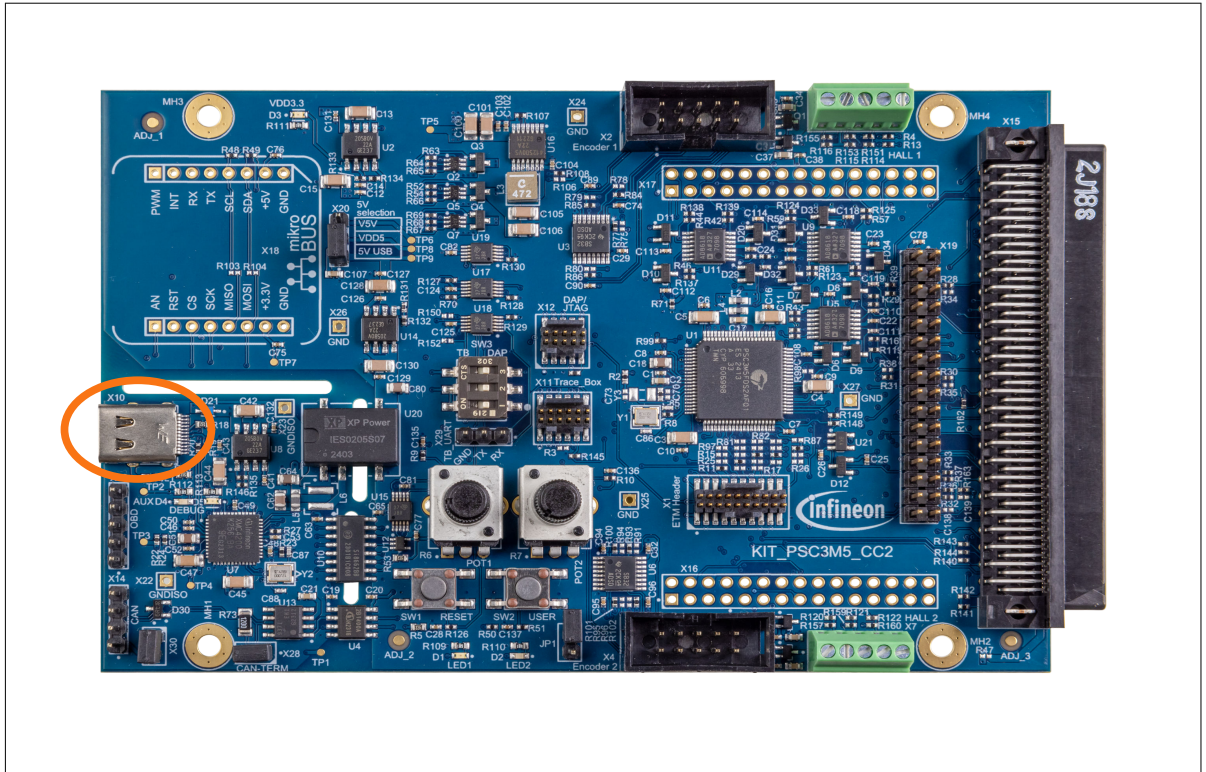

Figure 6 Connect USB cable to the USB connector on board
1. Connect the board to the PC using the provided USB cable through the J-Link USB connector (X10), as shown in Figure 6. It enumerates as a USB composite device if you are connecting it to your PC for the first time